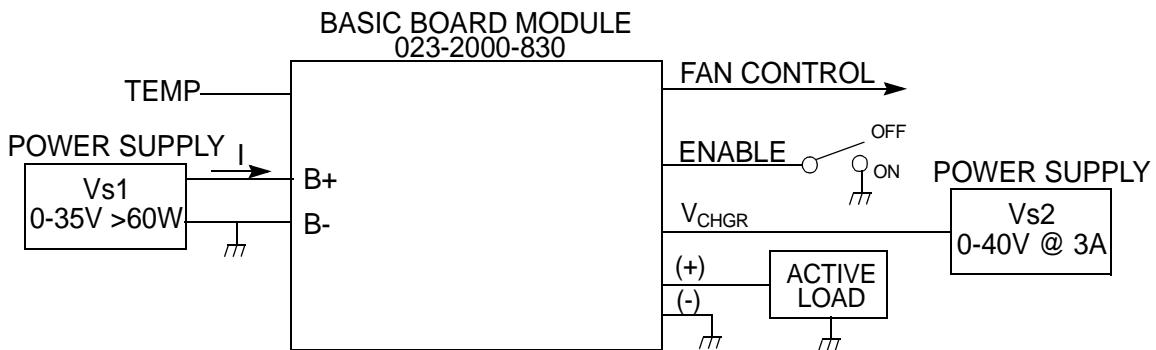

Figure 7-24 BATTERY REVERT TEST SETUP
3. Connect 023-2000-830 Battery Back-Up as shown in Figure 7-24.
1. Connect the circuit as shown in Figure 7-24.